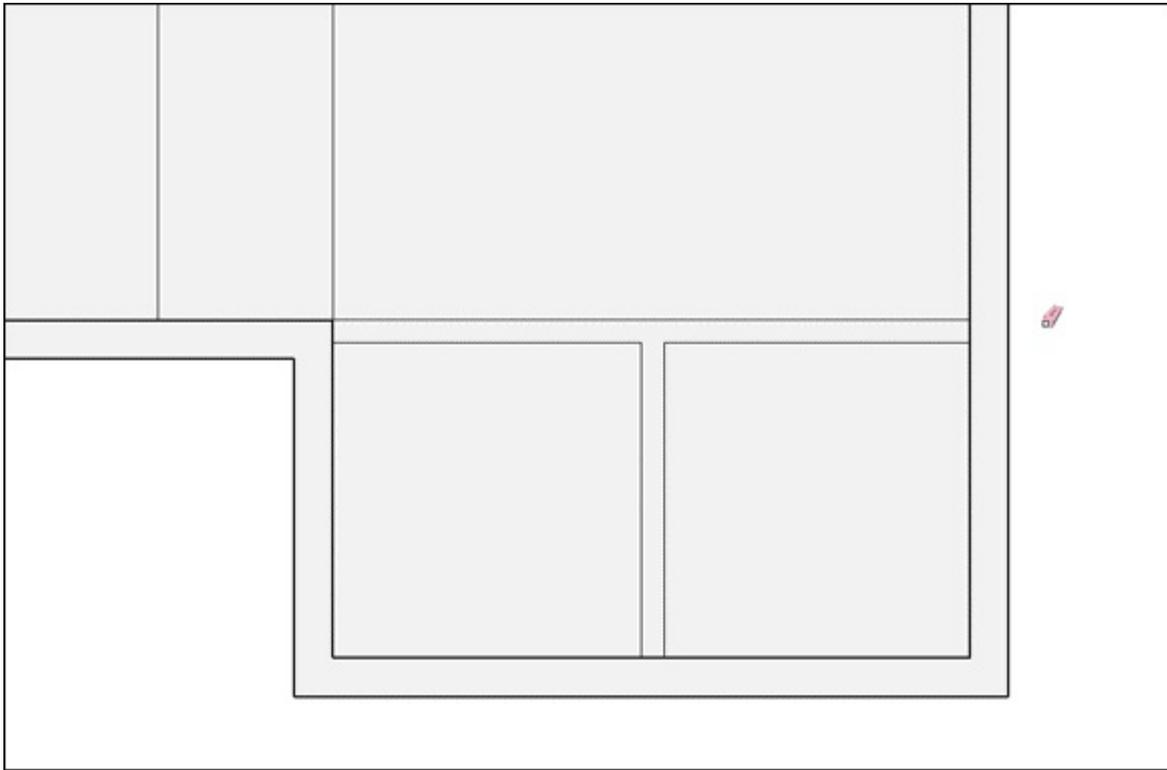

FIGURE 4-16: Using the Eraser, delete your guides and any little edge segments left over from drawing the interior walls.
4. **Use the Eraser to delete extra edge segments. See Figure 4-16.**